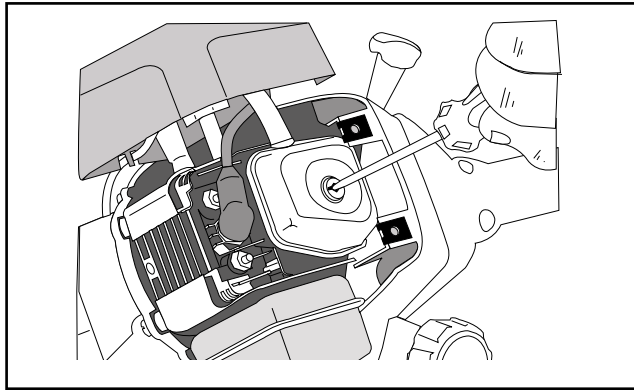

Fig. 50
- Remove the rocker arm cover and gasket, using a T-25 Torx® screwdriver (Fig. 50).
- Reinstall the rocker arm cover using a **new gasket**. Torque the rocker arm cover screw to **20-30 in•lb (2.2-3.4 N•m)** (Fig. 50).